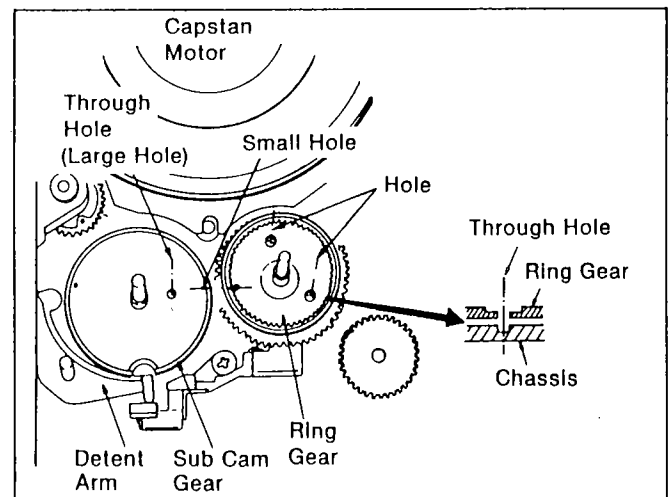

Figure M38
1. Install the Ring Gear so that the two holes in the Ring Gear align with the two holes in the chassis as shown in Figure M38.
2. Install the Sub Cam Gear so that the large hole in Sub Cam Gear is aligned with the hole in chassis. Also the small hole (located just outside of large hole) on Sub Cam Gear should align with the hole on Ring Gear as shown in Figure M38.
3. Install the Detent Arm and make sure Detent Arm seats perfectly in detent of Sub Cam Gear as shown in Figure M38.